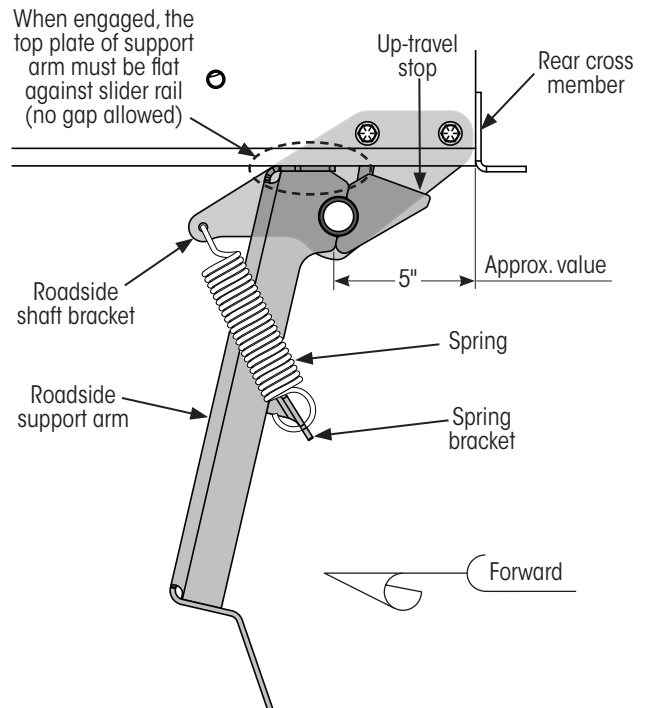
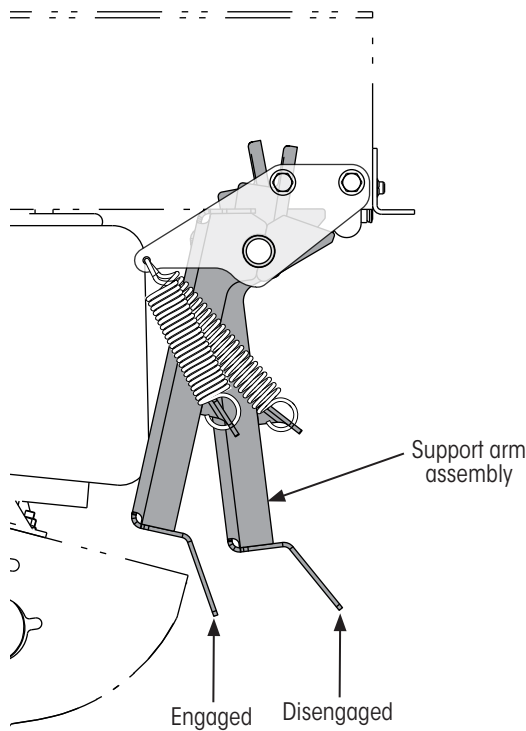

Figure 36: Verifying support arm assembly position
Figure 37: Checking support arm assembly movement
**NOTE:** At this time, spring tension should be holding the roadside support arm top front edge against the side rail (Figure 36).
- A. **Pull** roadside support arm toward the disengaged position and **lift** shaft up so the top surface of the support arm is flat against the bottom surface of the side rail (Figure 36).
10. **Verify** the top surface of the support arms are flat against the underside bottom surface of the side rails and there is no gap (Figure 36) between the top of each support arm and the side rail.
11. **Measure** between the rear crossmember and the back edge of both arms (Figure 36). This measured distance should be approximately five inches.
13. **Manually move** support arm assembly (Figure 37) between disengaged up-travel stop (Figure 36) and fully engaged positions to ensure support arms move freely without binding.